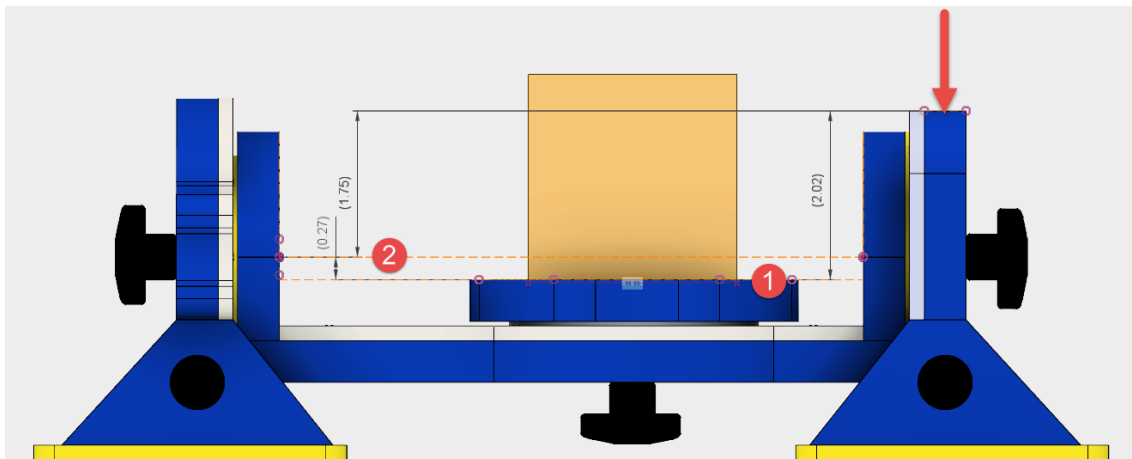

Figure 18
- 1) Touch off to the top of the driven side (red arrow) with the paper test, and offset 2.02" down to the mounting plate at line 1 (Figure 18). The tool can then be offset again by the material thickness and zero location as specified in the toolpath. This must be done with the router bit.
The 0.27" is a constant defined by the geometry of the accessory, specifically the distance between the center of rotation of the trunnion, and the mounting jig (Figure 18).